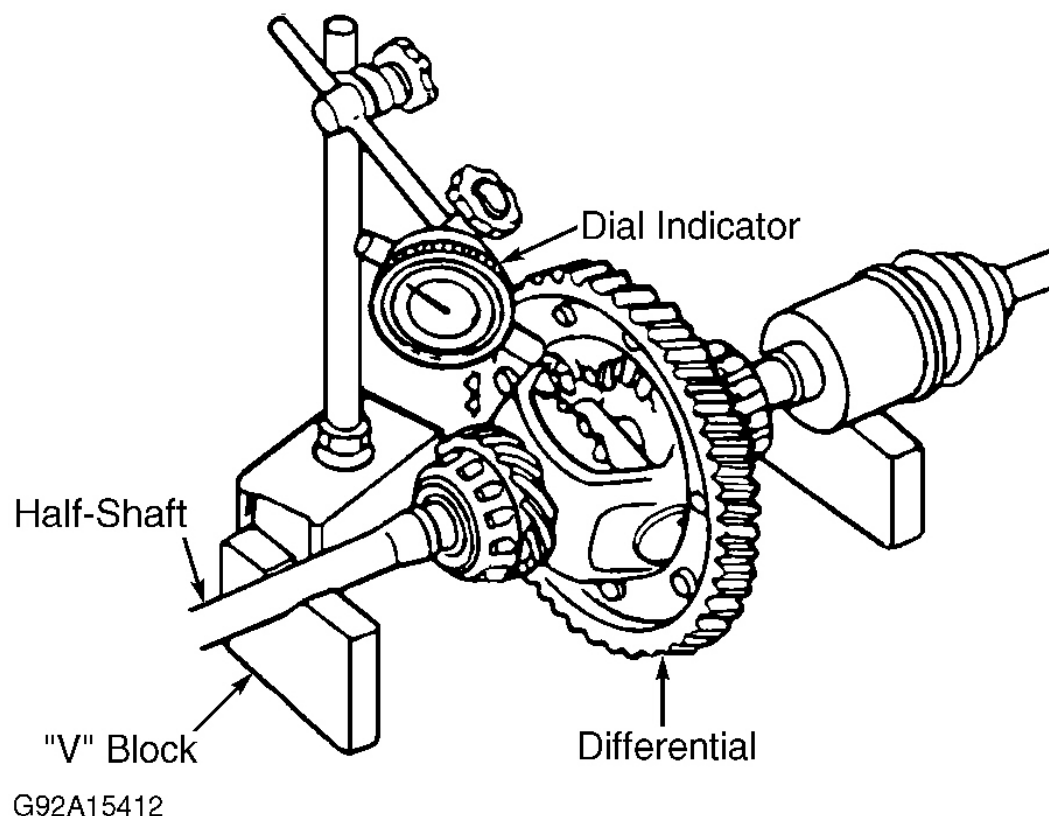

Fig. 15: Checking Differential Pinion Gear Backlash
2. Install left and right axle shafts into differential assembly. Support axle shafts on "V" blocks. See **Fig. 15**. Using a dial indicator, measure backlash of differential pinion gears. Differential pinion gear backlash should be .001-.004" (.02-.10 mm). Measure backlash of side gears. Side gear backlash should be .020" (.50 mm). Replace differential assembly if either specification is exceeded.